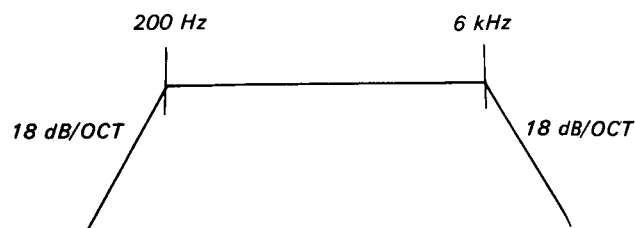

Fig. 8-43.
*¹: The value when a distortion measuring filter (Fig. 8-43.) is used and that when the filter is not used is less than 1.0%.